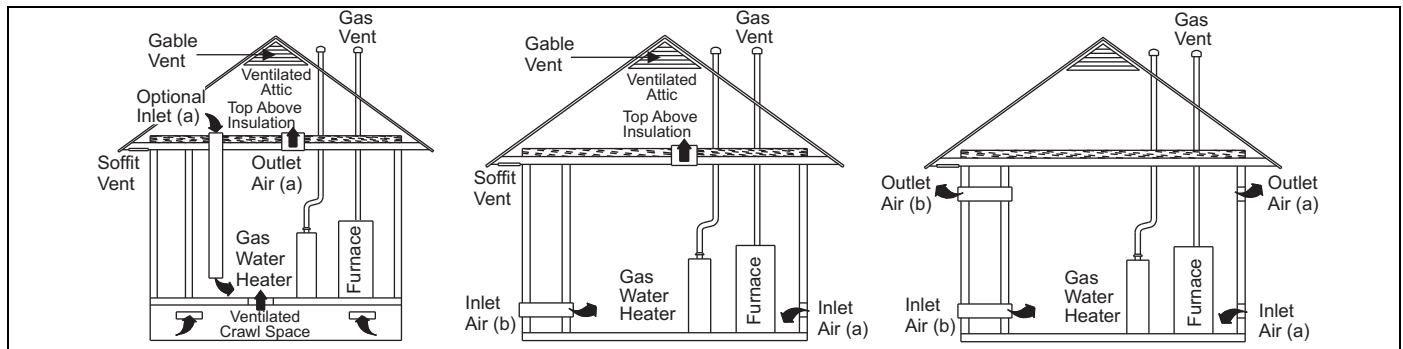

FIGURE 38: Outside and Ambient Combustion Air
3. **VENTILATED COMBUSTION AIR:** Combustion air is supplied through a PVC or ABS pipe that is connected to the PVC coupling attached to the burner box and is terminated in a ventilated attic or crawl space. The combustion air and the vent pipes are not terminated in the same atmospheric zone. Refer to Figure 38 for attic and crawl space termination. Only the combustion air intake may terminate in the attic. The vent must terminate outside.
Refer to Figure 38 for required attic termination for the combustion air intake pipe. For attic termination, use two 90 elbows with the open end in a downward position. Be sure to maintain 12" (30.5 cm) clearance above any insulation, flooring or other material.